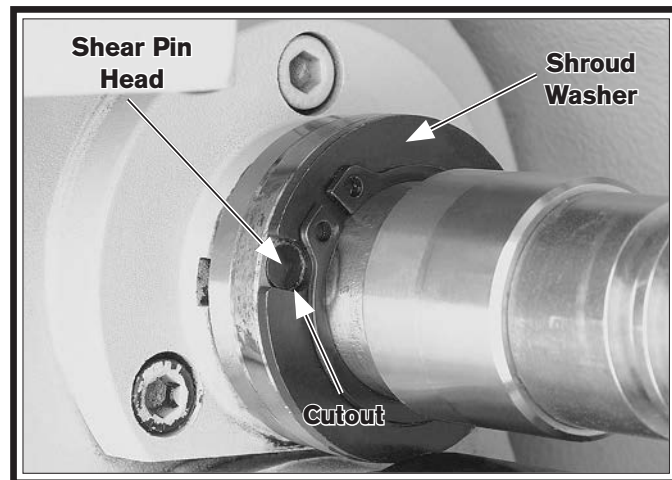

Figure 129. Shroud washer and shear pin alignment.
2. Rotate the shroud washer on the leadscrew shown in **Figure 129**, so that the cutout lines up with the shear pin head.